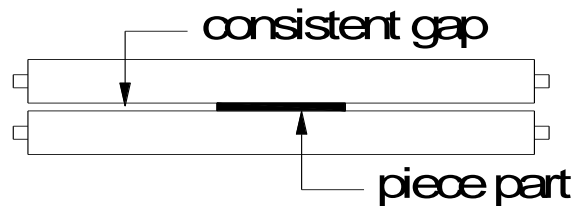

figure 3
The SR-2420M slip roller has three 2.00" (50.8mm) diameter rolls. (fig. 3) The two front rolls, one placed vertically above the other are clamping rolls. The top roll is fixed and the bottom roll is adjustable with two knobs (A). The rear idler roll controls the diameter of the finished piece part and is adjusted with two bolts (B). Always make sure the gap along the full length of the rolls is consistent. (fig. 2) If the rolls are not adjusted exactly parallel, the material will spiral during the rolling process, Because material springback varies with the kind of material being formed, only by test forming several pieces can the correct adjustments be made.
Always make sure the gap along the full length of the rolls is consistent. (fig. 3). If the rolls are not adjusted exactly parallel, the material will spiral during the rolling process. Because material springback varies with the kind of material being formed, only by test forming several pieces can the correct adjustments be made.